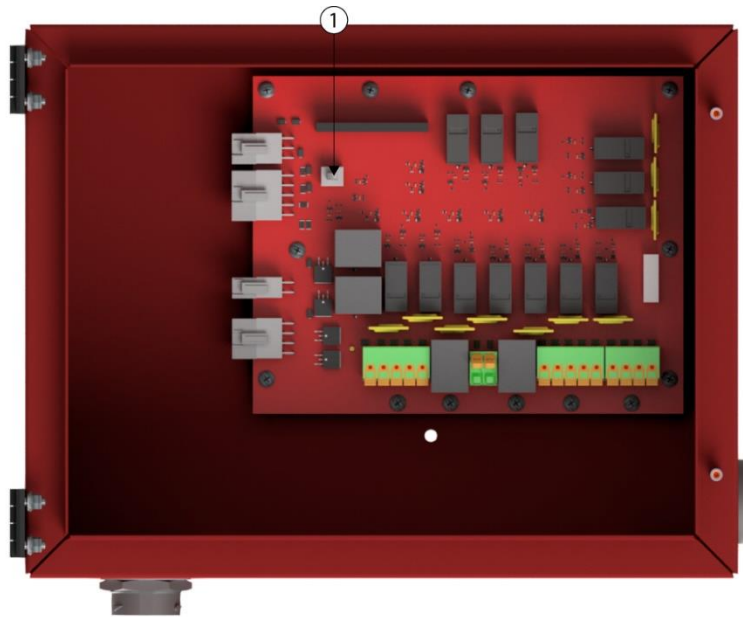

Figure 4-2
- Locate the emergency run override switch on the TSP terminal board. *(Figure 4-2 item 1)*